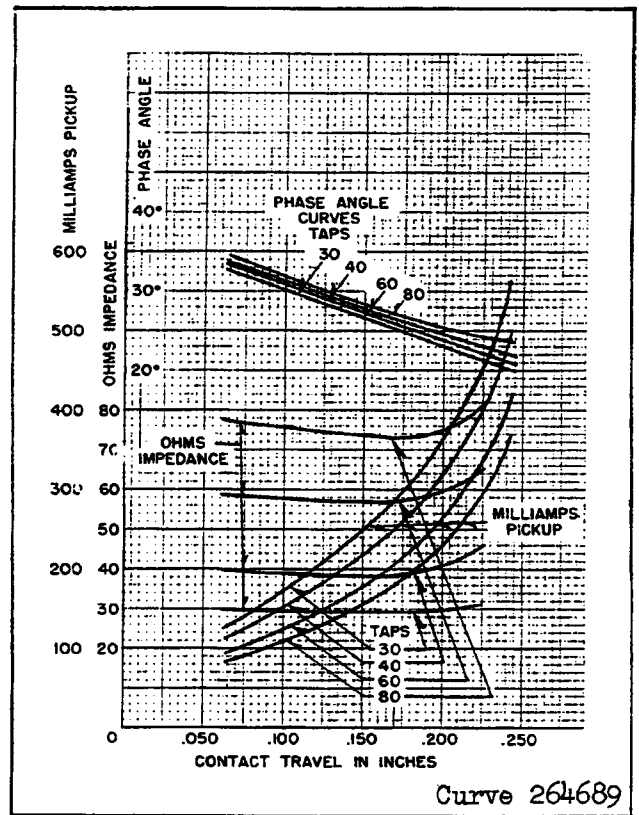
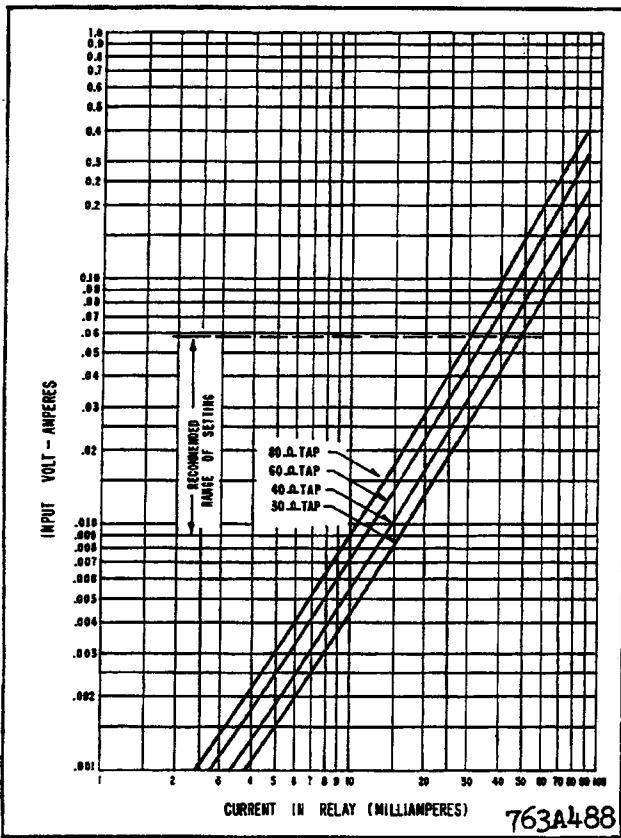
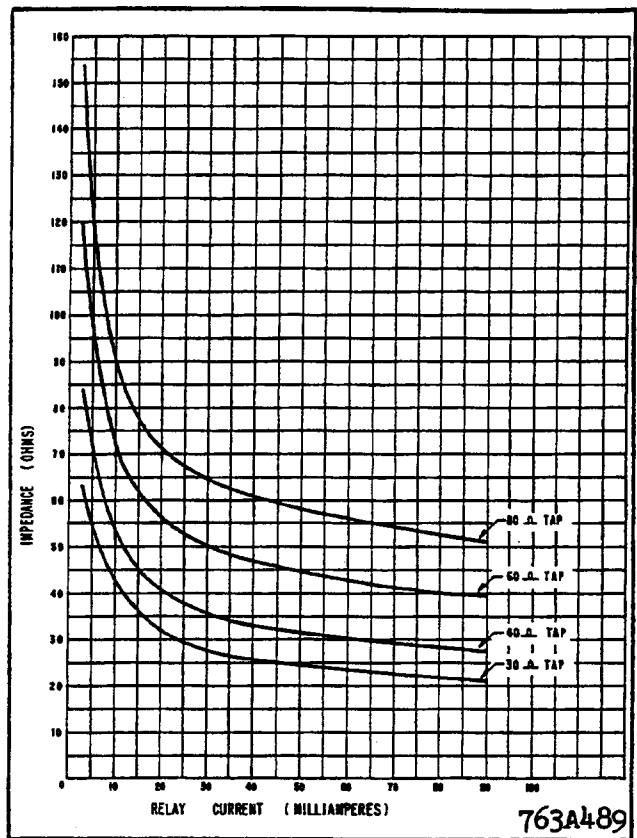

Fig. 4. Typical LC-1 Characteristic Curves.
Fig. 5. Typical LC-2 Volt-ampere Curve.
Fig. 6. Typical LC-2 Impedance Curve (Impedance is at 22° angle).
Characteristic curves are shown in figures 4, 5 and 6. The use of these curves is described under "Setting Calculations". LC-1 sensitivity is about 0.5 V.A. and up. The type LC-2 relay may be set to operate at an energy level ranging from .062 to .0085 volt-amperes. It may also be used to an energy level as low as .0025 V.A. with limitations which will be discussed. This range of application is shown on the typical volt-ampere curves of Fig. 5. Typical impedance curves are shown in Fig. 6. The phase angle of the relay is substantially constant (within 3°) at 22° .
Equation (3) is used to determine the current at which the relay trips for an internal fault on the bus of magnitude, I_p . Equation (4) is used to determine the primary current necessary to trip the relay when it has been adjusted to trip at a known value of relay current. It should be noted, however, that the relay impedance is not constant, but varies with relay current as indicated in Figs. 4 and 6. Therefore, in using equation (3), it is desirable to assume a value of relay impedance equal to the impedance tap, and make a first calculation of the relay current. When this is obtained, a new value of relay impedance should be selected from Fig. 4 or 6 and a second value of relay current calculated. Usually, it will not be necessary to continue the calculation any further, as the values resulting from the second calculation will be sufficiently accurate.
Reference to Figure 4 indicates that the relay can be set to operate at .102 (or 0.100 ampere on either the 60 ohm or 80 ohm tap. Since the desired value is near the minimum obtainable, choose the 60 ohm tap as being the closest match to the value of 57.8 for NZ_C , and make a second more accurate calibration. Using the 60 ohm tap and a contact travel of .075", values read from the curve give a pick up current $I_r = 0.100$; $Z_r = 58.3$ ohms, and an impedance angle of 33° for Z_r .
This is within the recommended setting range of the relay as indicated in Fig. 5.
From Fig. 6, on the 60 ohm tap, at $I_r = .0221$ $Z_r = 54.5 / 22^\circ = 50.6 + j20.4$.
At $I_r = .0232$ on the 60 ohm tap, Fig. 6 indicates that $Z_r = 54$ ohms. Since a value of $Z_r = 54.5$ was used in the above calculation, it is not necessary to carry the calculation any further.
of the connections should be checked. This can be done by circulating a high current from a low voltage high current test set through the Linear Coupler primaries. The polarity can be checked by testing the Linear Couplers in pairs. For example, if 500 amps. is passed from feeder to bus in circuit number 1 (figure 4) and from bus to feeder in circuit number 2, then no voltage should be measured by a suitable low reading voltmeter temporarily connected in series with the Relay-Coupler Circuit. If, however, a reading of 5 volts is obtained ($500 \times .005 \times 2$), it is an indication that one of the Coupler secondaries is reversed. If a zero reading is obtained, this checks the Couplers of circuits number 1 and 2 against each other. Circuit 2 should then be checked against circuit 3, circuit 3 against circuit 4, and so on until all circuits are checked. This should be done for each phase. A high resistance voltmeter should be used, preferably one having a resistance of 1000 ohms per volt, or more. A similar check may be made using load currents in the circuit if these are high enough to give a satisfactory voltage indication.
The small a-c solenoid switch has adjustments for pick-up and drop-out. The pick-up characteristics may be checked against Figure 4 which is a typical curve. This check should not be made, however, until the proper drop-out, or "contact follow" adjustments, has been made. To do this, connect the relay on 30 tap, and pass 130 ma 60 cycles in terminals 8 and 9. See that the plunger is picked up. Loosen the locknut at
There is a residual magnetism effect in this relay unit amounting to approximately .001 ampere on the 80 ohm tap. For this reason it is desirable to calibrate the relay after first applying a polarizing current to it. For example, the relay would be adjusted to trip at .010 ampere on the 80 ohm tap, and would then be momentarily subjected to a current of .250 ampere, which is 25 times minimum pickup. The minimum trip current would then be checked and the relay adjusted to trip at .010 ampere. After another momentarily applied polarization of .250 ampere the minimum trip would be rechecked. This process would be repeated back and forth until there were no change in the minimum trip current of .010 ampere after polarization. This manner of calibration is especially important at the low values of minimum trip currents, since the same residual magnetism effect of approximately .001 ampere would amount to a 20 percent change in the minimum trip setting if the relay were set for 5 milliamperes on the 80 ohm tap. It is for this reason that the lower limit of the recommended range of settings has been shown at .010 ampere for tap 80. The limit for the other taps is at the same value of voltamperes. It is possible, however, to set the relay down to an energy level of .0025 voltamperes as indicated on curve of Fig. 5. On the other taps, the residual magnetism effect is equal to